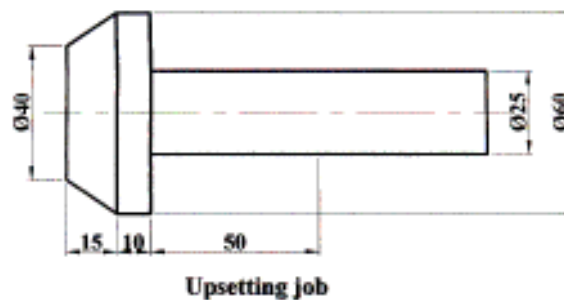

Fig. 6
6. Design upsetting die for upsetting as shown in fig. 6.